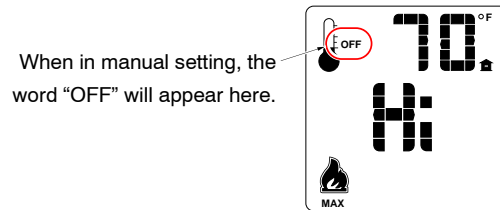

Figure 36
- **MANUAL ON/OFF** – The burner will turn on and off using the remote (see Figure 36). Press the On/Off button to control the burner. When off, the display will only show the current temperature.